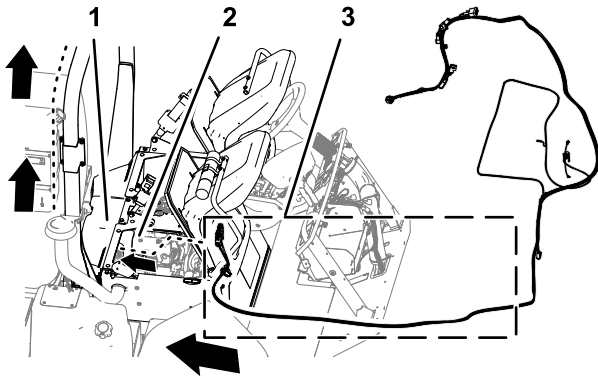

Figure 139
1. Route the 302 cm (119 inches) branch of the data-harness into the right side of the engine compartment (adjacent to the air filter for the engine) and rearward under the bottom right area of the rear engine shroud (Figure 139).